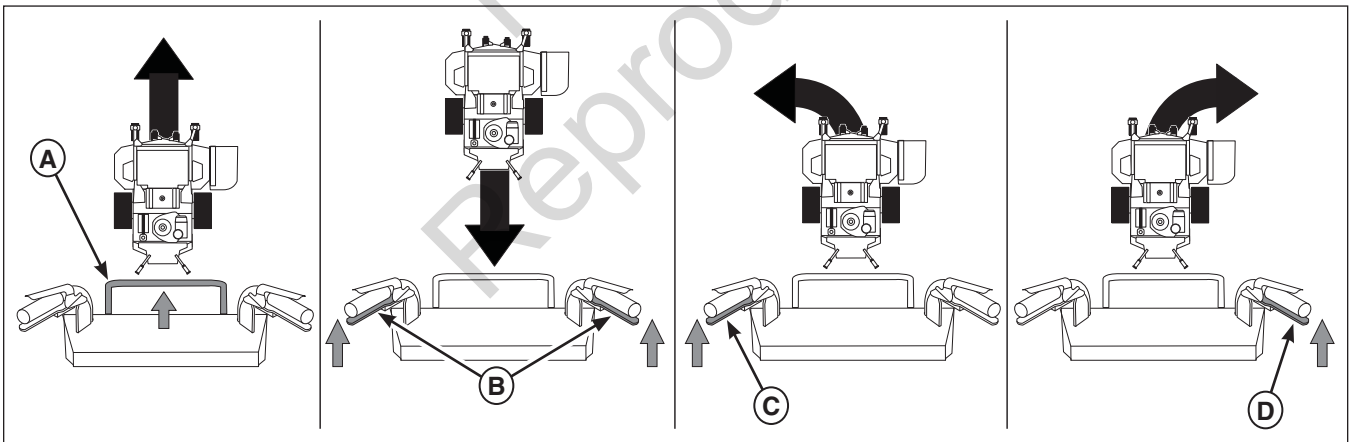

Figure 5. Driving the Mower
2. Gently move the forward speed control lever (**A**, Figure 5) forward until desired speed is achieved.